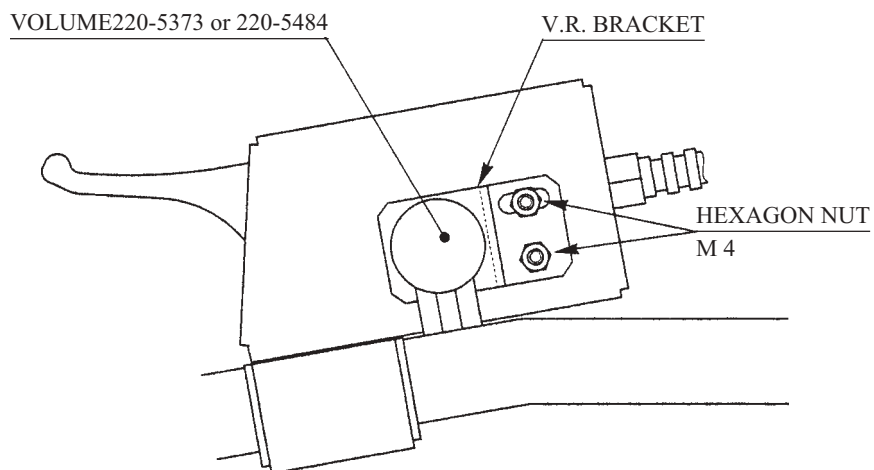

FIG. 12. 1
- ④ Loosen the 2 Nuts which secure the Volume Bracket to move the Volume Bracket. (FIG. 12. 1).